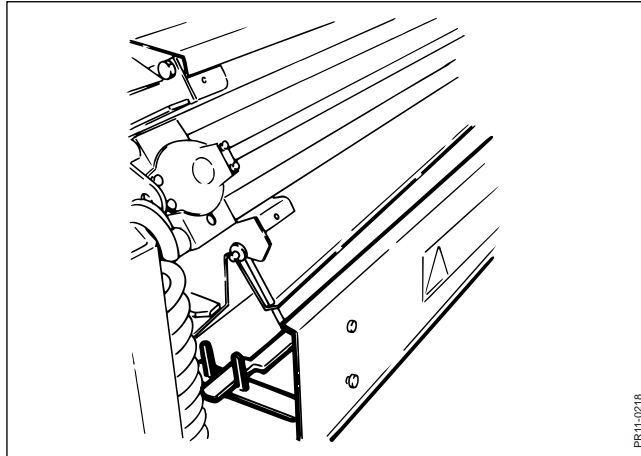

Fig. 4-25
- Fig. 4-25** 2. Lower the guard between the grinding device and the rotor so that there is free space between the device and the rotor.